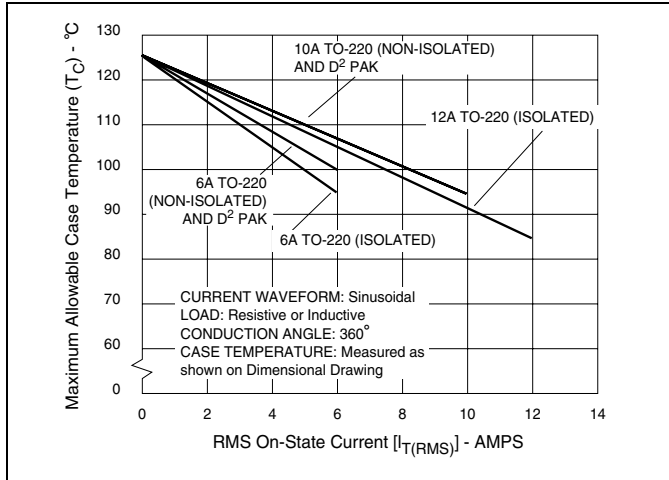
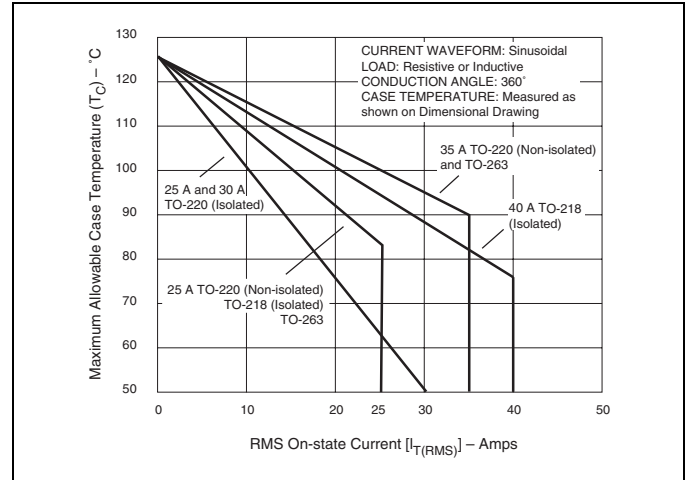
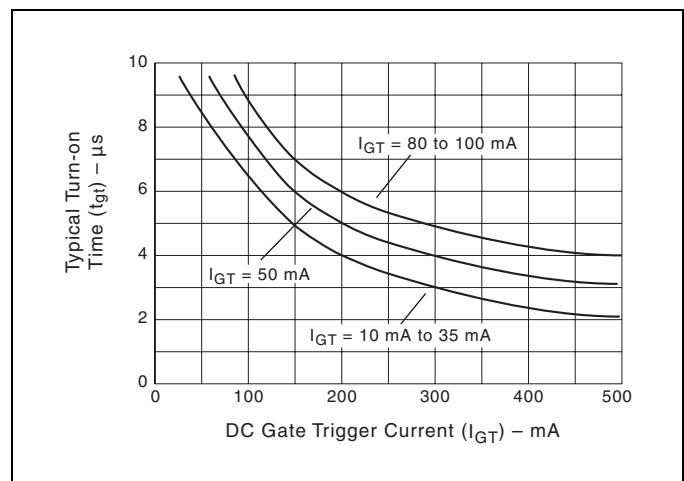

Figure E4.1 Maximum Allowable Case Temperature versus On-state Current (6 A to 12 A)
Figure E4.4 Maximum Allowable Case Temperature versus On-state Current (25 A to 40 A)
Figure E4.12 Turn-on Time versus Gate Trigger Current (Typical)
- See Figure E4.1 through Figure E4.4 for current rating at specific operating temperature and Figure 4.16 for free air rating (no heat sink).
- (10) See Figure E4.12 for  $t_{gt}$  versus  $I_{GT}$ .
- (11) See package outlines for lead form configurations. When ordering special lead forming, add type number as suffix to part number.
- (12) Initial on-state current = 400 mA dc for 16 A to 40 A devices and 100 mA for 6 A to 12 A devices.
- (13) See Figure E4.1 through Figure E4.4 for maximum allowable case temperature at maximum rated current.
- (14) Pulse width  $\leq 10 \mu s$ ;  $I_{GT} \leq I_{GTM}$
- (15) For 6 A to 12 A devices,  $R_L = 60 \Omega$ ; 16 A and above,  $R_L = 30 \Omega$
- (16) 40 A pin terminal leads on K package can run 100 °C to 125 °C.
- (17) Alternistor does not turn on in Quadrant IV.
- (18)  $T_C = T_J$  for test conditions in off state
- (19)  $I_{GT} = 200 \text{ mA}$  for 6 A to 12 A devices and 500 mA for 16 A to 40 A devices with gate pulse having rise time of  $\leq 0.1 \mu s$ .
- (20) Minimum non-trigger  $V_{GT}$  at 125 °C is 0.2 V.